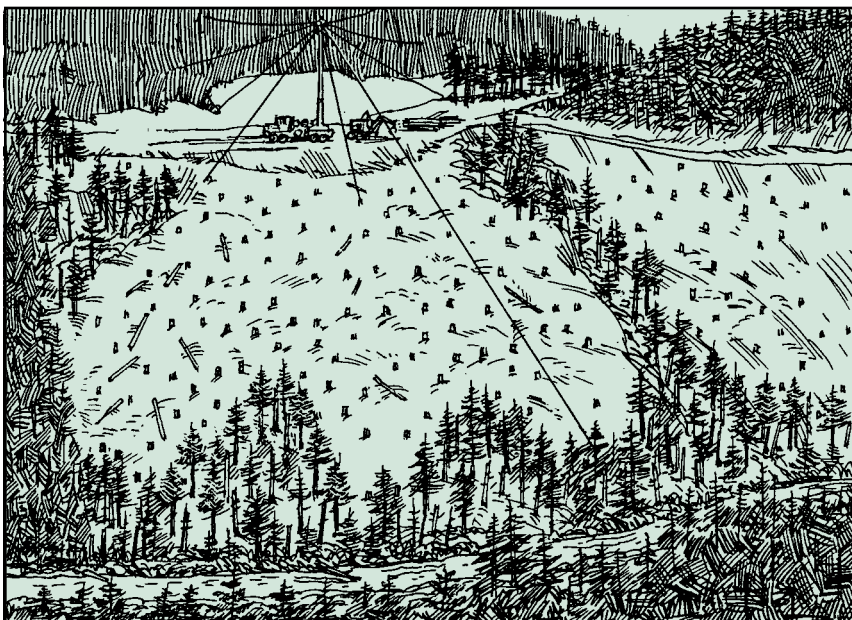

Fig. 12. — Reserve tree clumps compatible with logging systems.
- Select individual trees or clumps that will allow fallers to safely fell the timber and be compatible with the yarding system (Fig. 12 — see strategies listed under logging systems).
- Locate clumps or individual trees between skid roads on fan type or parallel settings. The size and shape of a clump is determined by the distance between skid roads, yarding system and hazard area (Fig. 12).
- Along the edge of the unit (Fig. 12).
- On yarding breaks between settings (Fig. 12).
- On rock outcrops, cliffs or blind leads where harvesting is uneconomical (Fig. 12).